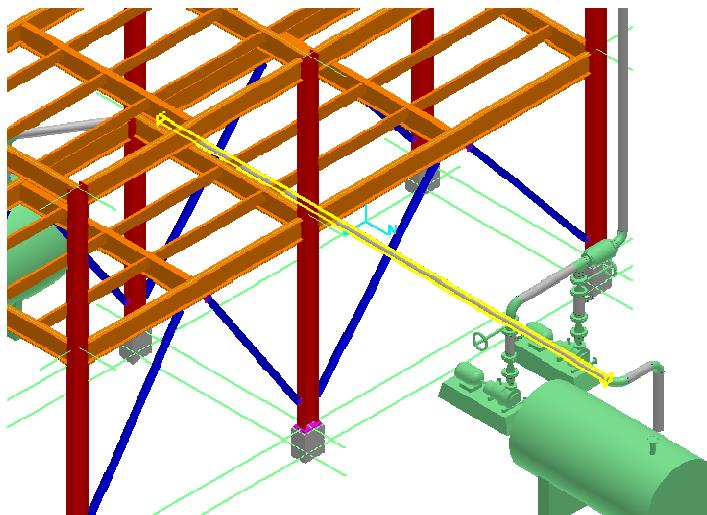

Figure 5: The Pipe Straight Feature 2001-P
2. In the select straight feature smartstep, select the pipe straight feature 2001-P that will be supported. The selected pipe straight feature should resemble Figure 5.